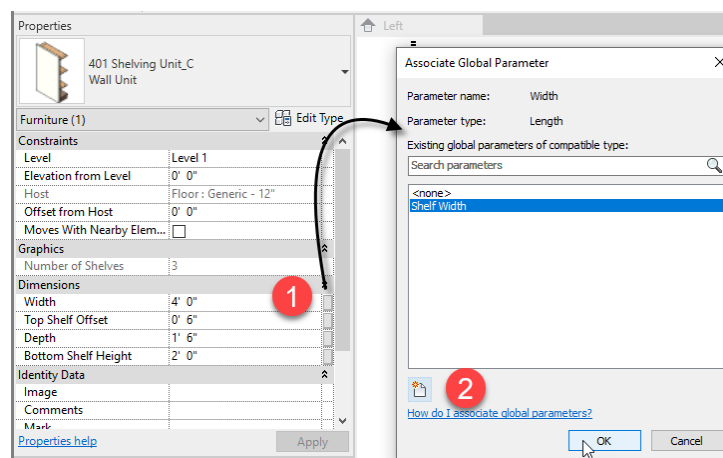

Figure 47
3. Click the Add Parameter button and create a new parameter called: **Shelf Width** (see Figure 47).